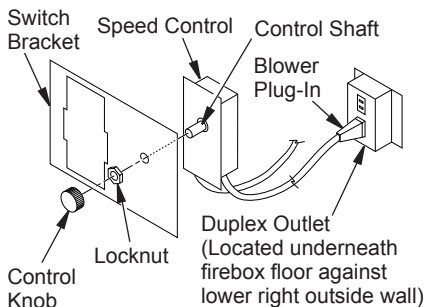
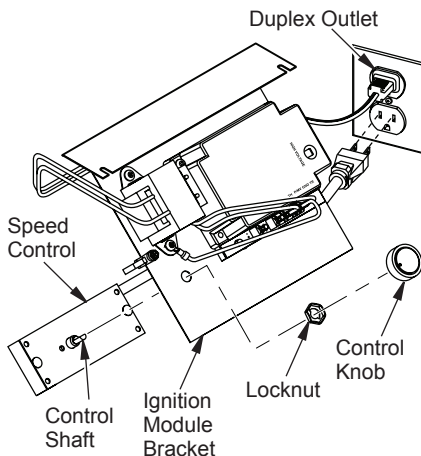

Figure 36 - Attaching Speed Control to Firebox (Millivolt Models)
Figure 37 - Attaching Speed Control to Firebox (Electronic Models)
5. Mount speed control box by placing plastic control shaft through opening in switch bracket (see Figure 36) or ignition module bracket (see Figure 37).
5. Mount speed control box by placing plastic control shaft through opening in switch bracket (see Figure 36, page 22) or ignition module bracket (see Figure 37, page 22).
6. While supporting speed control, secure control shaft with lock nut by pushing and turning lock nut with pliers clockwise until it is tight against mounting plate. Place control knob provided on shaft (see Figure 36 or 37, page 22).